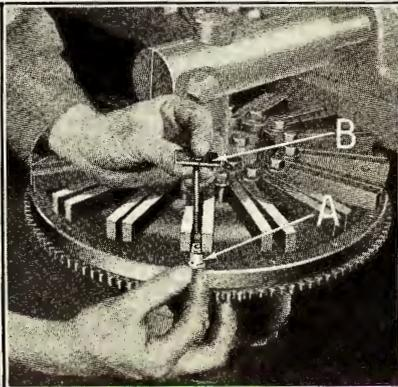
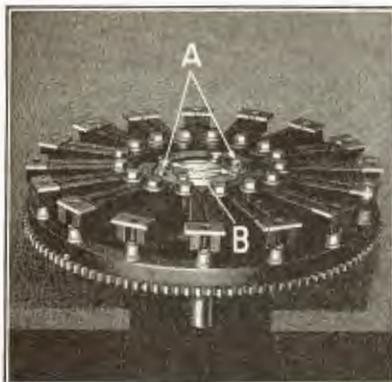

Fig. 194
Fig. 200
- 287** When the magnets are correctly positioned, install magnet supports under ends of magnets (See "A" Fig. 194). Place the magnet clamps "B" over the ends of the 16 brass screws (new screws should be used), and run the screws down through the magnet supports, flywheel and ring gear. Draw the brass screws and magnet bolts down tightly. (The ends of the brass screws are not peened until transmission is completely assembled and the magnet clamps have been checked for height and alignment as described in Pars. 316 and 317.)
- 302** Position gear shaft on flywheel, making sure that dowel pins in flywheel enter dowel pin holes in flange on shaft (See "A" Fig. 200). The shaft is then seated in flywheel by tapping it into place with a copper or lead hammer. The shaft is held in position while drums and gears are assembled by the four flywheel cap screws which are run down through gear shaft flange into flywheel. If a fixture for holding the transmission similar to the one shown in Fig. 194 is not used, it is necessary to place spacer washers approximately $\frac{1}{2}$ " thick over ends of flywheel cap screws before inserting the screws in flywheel (See "B" Fig. 200). This prevents the screws protruding through the inside of the flywheel and coming in contact with the triple gears before crankshaft is connected to flywheel.